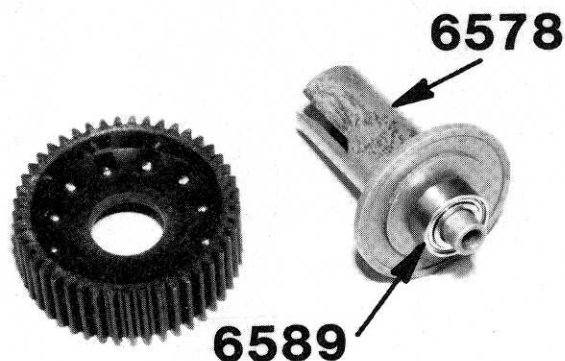

Fig. 29
□ Fig. 29 Clean all the silicone grease off your hands and push one of the #6589 ball bearings into the center of the gear. **CAUTION:** there are three bearings that have the same diameter, but different hole sizes. Make sure you use the #6589 bearing that fits onto the left hand hub, as shown.